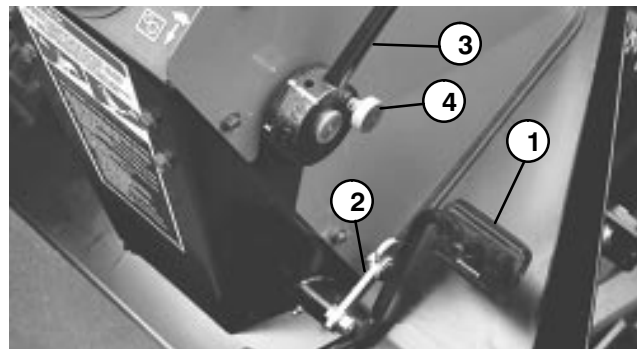

Figure 11
Traction Pedal (Fig. 11) – Controls forward and reverse operation. Depress top of pedal to move forward and bottom to move backward. Ground speed depends on how far pedal is depressed. For no load, maximum ground speed, fully depress pedal while throttle is in FAST. For maximum power under load or when going uphill, keep engine rpm high by having throttle in FAST and traction pedal partially engaged. If engine rpm begins to decrease due to load, gradually reduce traction pedal pressure until engine speed is increased.
Speed Selector (Fig.11) - Cam lever at side of traction pedal can be rotated to maintain desired speed. Rotating lever forward decreases speed and backward increases speed.
Axle Shift Lever (Fig.11) – Located on right side of console, lever selects front drive mode. Pull out lockout knob, move lever rearward for mowing operation and forward for transport operation, then release knob to lock selection. Lever must be in LO position to mow. Middle position (N) is for towing.